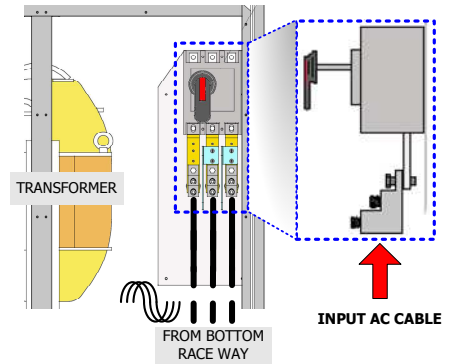

Figure 11-4: Connection of the AC power cables
- Connect the AC power cables as indicated in Figure 11-4.